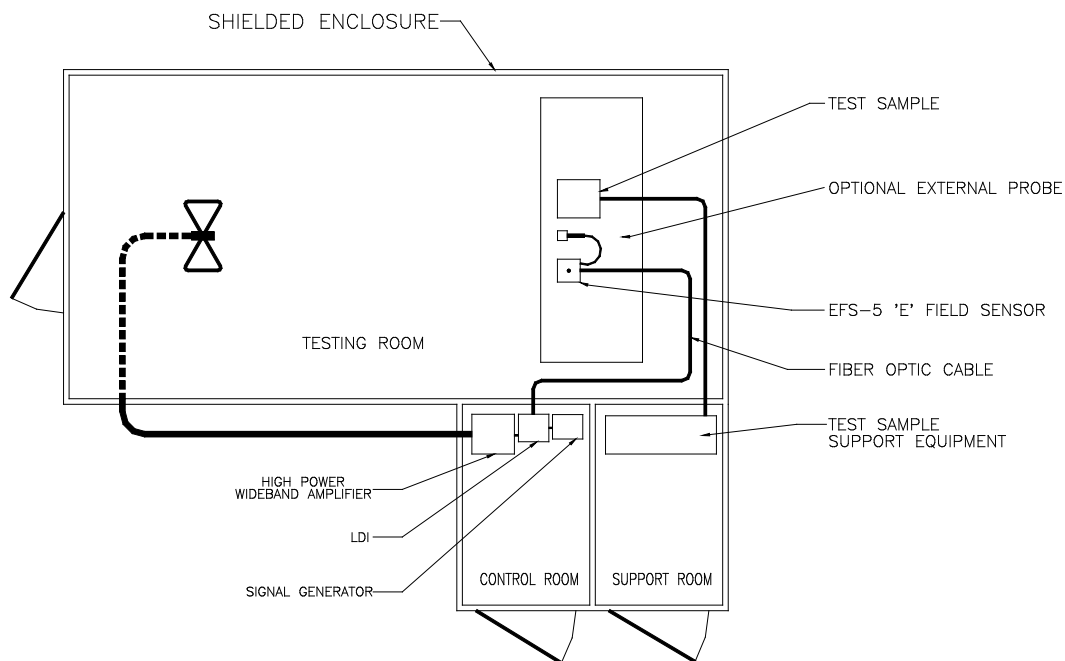

FIGURE 5.0
The Test Set-Up Procedure, refer to Figure 5.0 for a Typical 'E' Field Leveling set-up
- 1) Turn on all equipment shown in Figure 5.0 and allow a three minute warm-up period.
- 6) The system is now ready to be tested with a swept analog or stepped frequency input signal. All IFI component blocks shown in Figure 5.0 are capable of operating continuously from 10 kHz to 220 MHz. Extended frequency coverage, over the full range of the unit, can be provided by substituting an EFS-5 for the EFS-1 and adding a second log periodic or ridged horn antenna.